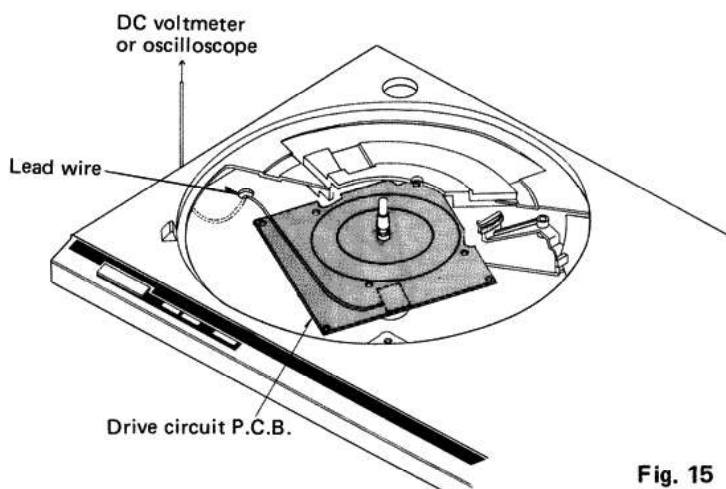

Fig. 15
2. Connect the clip (or solder the lead) to the checking part and bring it out of the bottom board, then connect a voltmeter or oscilloscope. (Fig. 15)